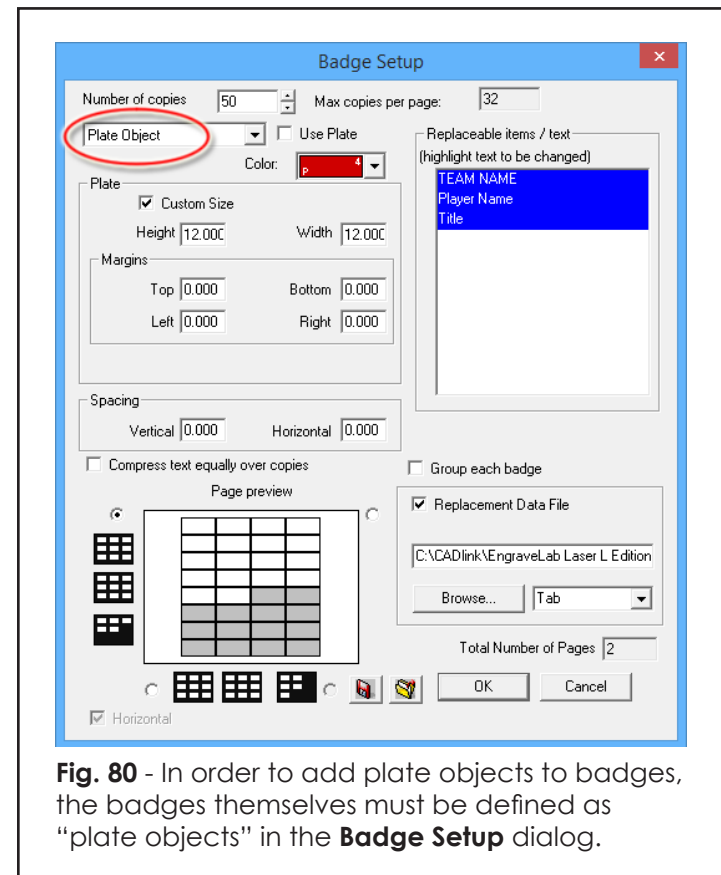

Fig. 80 - In order to add plate objects to badges, the badges themselves must be defined as “plate objects” in the **Badge Setup** dialog.
4. From the drop-list choose **Plate Object** (Fig. 80).